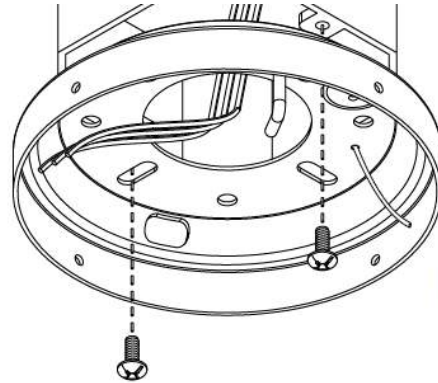

Figure 1.
- a. Pass the electrical wires from ceiling through the ceiling mount center hole as shown on Figure 1